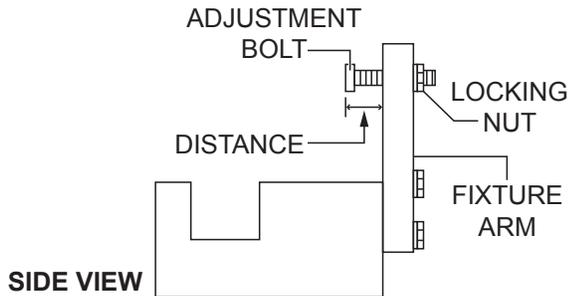

Figure 39. Trowel Arm Adjustment Tool (Side View)
1. Locate a trowel arm adjustment tool (P/N 9177). See Figure 39.